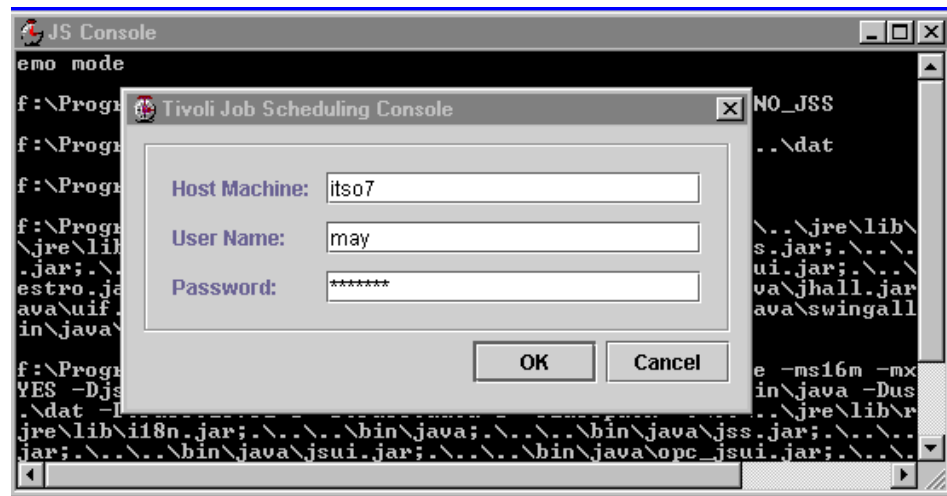

Figure 11. Logon panel to OPC
1. A user, May, opens a JSC logon panel in order to log on to the OPC Controller as shown in Figure 11.